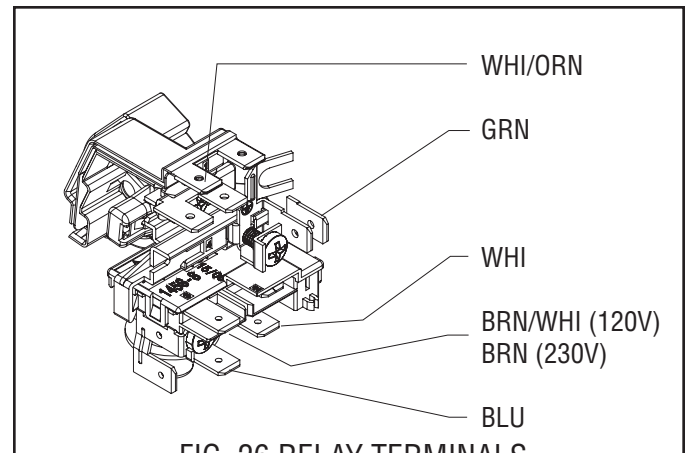

FIG. 26 RELAY TERMINALS
1. Remove the terminal cover (4)
3. Pull relay (1) off of the compressor pins and discard.
5. Refer to Fig. 26 and reconnect the wires.
6. Reinstall terminal cover (4).